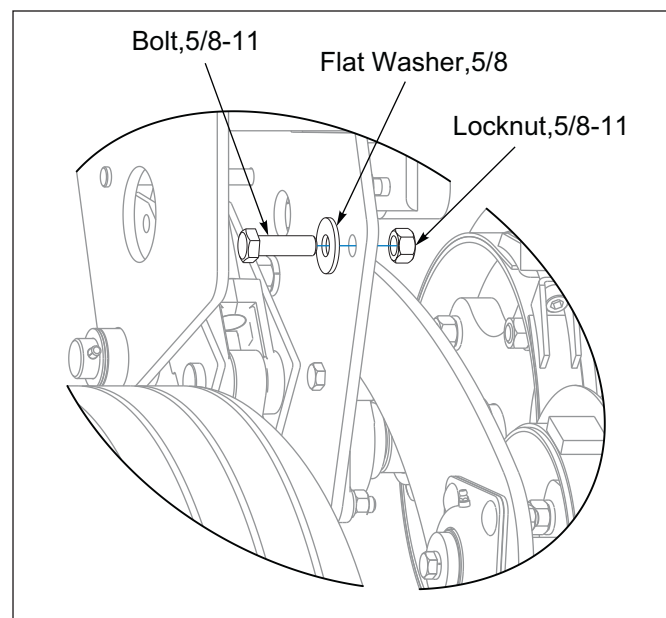

Figure 2-13: Shipping Bolt
7. Remove from the RH and LH Frame End Plate the 5/8-11 Shipping Bolts that locks the Rear Roller Arms Down. **See Figure 2-13.**